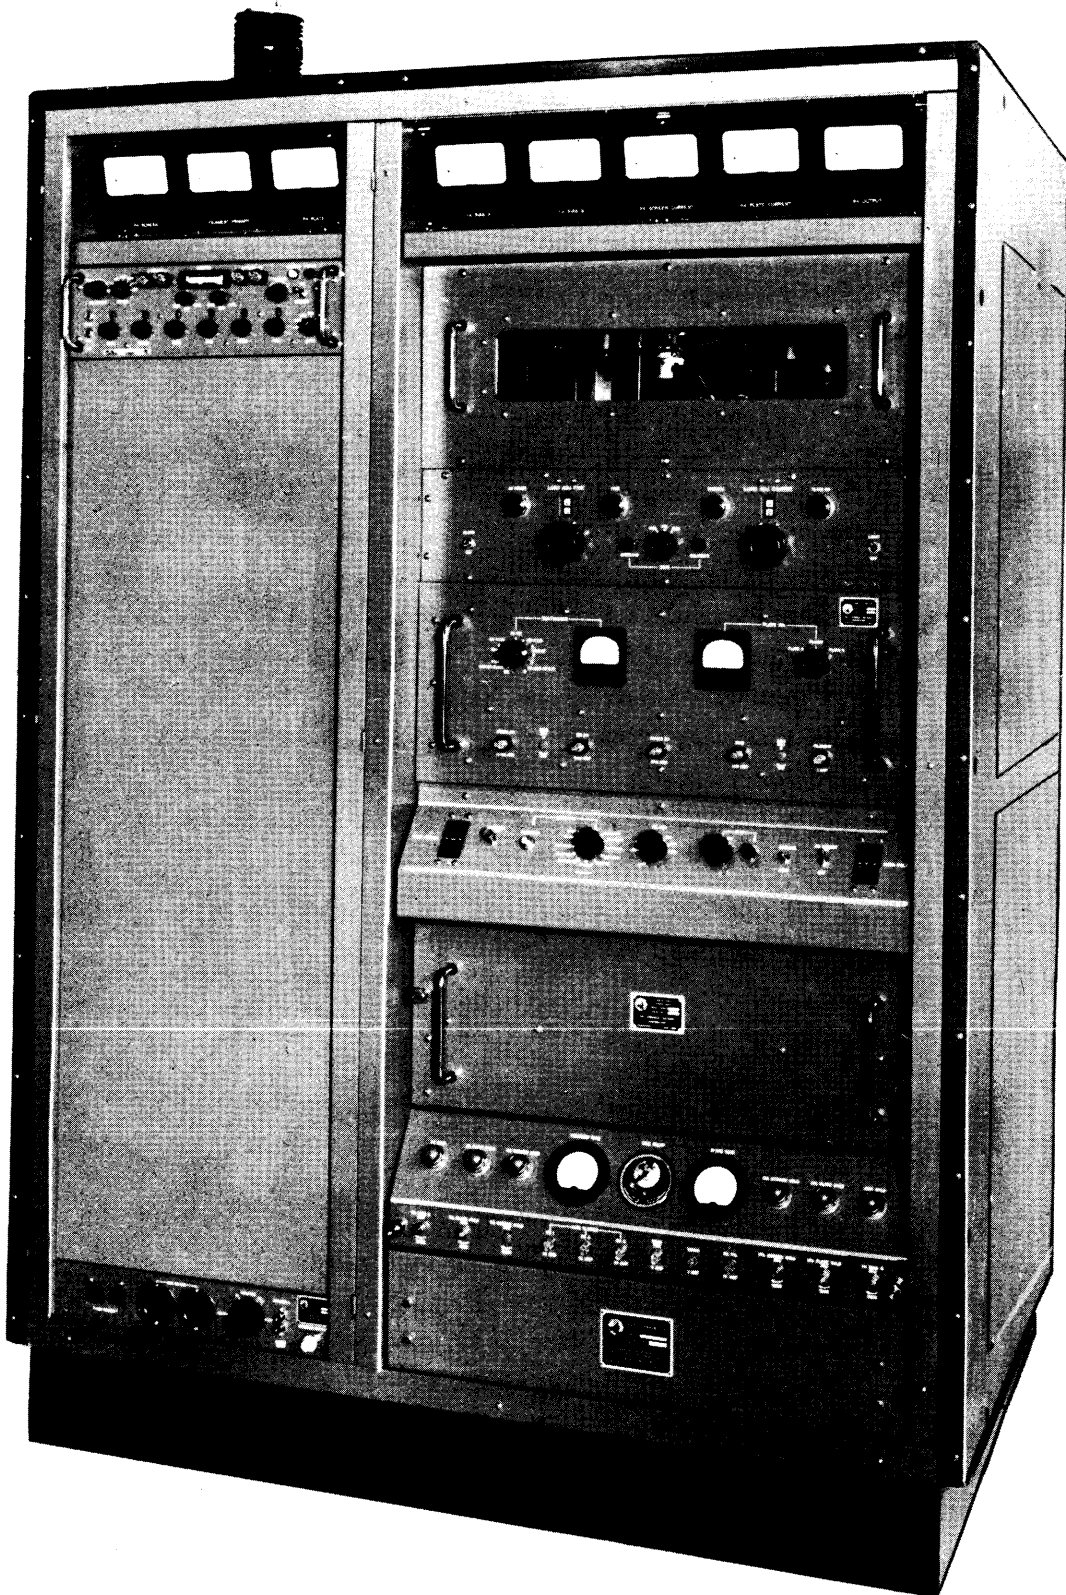

Figure 1-1. Low Frequency General Purpose Transmitter, Model GPT-10KLF
The GPT-10KLF Transmitter (figure 1-1) is a conservatively-rated general purpose transmitter that delivers up to 10,000 watts peak envelope power (PEP), or 5,000 watts average power, throughout the 5-kHz to 500-kHz range. Operation between 500-kHz and 540-kHz is possible with 5,000 watts PEP or 2,500 watts average power output. The transmitter is designed to accept a variety of exciter types to provide many types of operating modes, as follows:
a. GENERAL. - As shown in figure 1-1, the transmitter consists of two frames. The two frames house all the components of the transmitter and are equipped with protective front doors. Primary power and control line connections are made through the base assembly. The rf output connection is made at a coaxial connector on the upper right side of the second frame.
(1) Second Frame Meter Panel. - The meter panel, mounted at the top of the second frame, contains five meters. These monitor the PA tubes grid bias voltages, PA tubes screen grid voltage, PA tubes plate current, and transmitter power output or transmission line VSWR.
(2) 10-KW PA. - The 10-kw PA, occupying the upper portion of the second frame, contains the two tubes used in the final amplifier stage of the transmitter and associated output impedance-matching components.
(3) Linear Amplifier. - The linear amplifier drawer VLLA, slide-mounted below the 10-kw PA, contains the first two amplifier stages of the transmitter, filament, screen, and plate supplies for these stages, and the bias supply for all of the rf amplifiers.
(4) Main Power Panel. - The main power panel, mounted in the center-front portion of the second frame, contains controls for applying primary power to all second frame circuits, an interlock circuit monitor, and dc voltage controls.
(5) 10-KW High Voltage Rectifier. - The 10-kw high voltage rectifier, slide-mounted below the main power panel, receives high-voltage, 3-phase, ac power from a transformer in the main frame, and provides B+ potential for the 10-kw PA tubes. The 10-kw high voltage rectifier also provides rectification for the 3200-volt section of the transmitter main power supply. Either a solid-state rectifier, High Voltage Rectifier, Model HVRC-2, or a gaseous-tube rectifier, High Voltage Rectifier AX-103 is provided.
(6) Indicator Control and Relay Panel. - The relay panel, mounted at the lower front section of the second frame, contains overload and other protective relays associated with the 10-kw PA tubes, second stage amplifier tubes, and the PA tubes screen voltage supply.